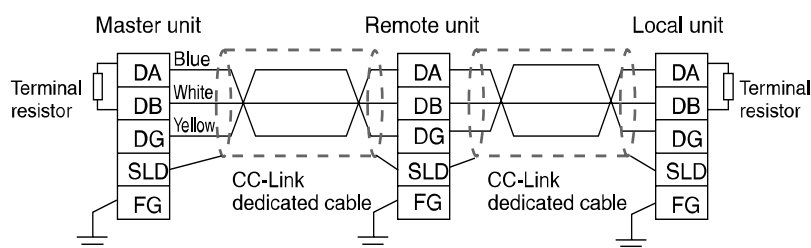

Fig.2
- (2) Be sure to connect a terminating resistor between “DA” and “DB” at both ends of the CC-Link system (Refer to Fig.2). Use a cable with the same specifications as a CC-Link-dedicated cable. If a cable with any other specifications is used, normal data transmission cannot be guaranteed.